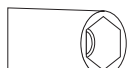

Figure 5
1. Please use driver with special head for removed and install nozzle as (Figure 5).